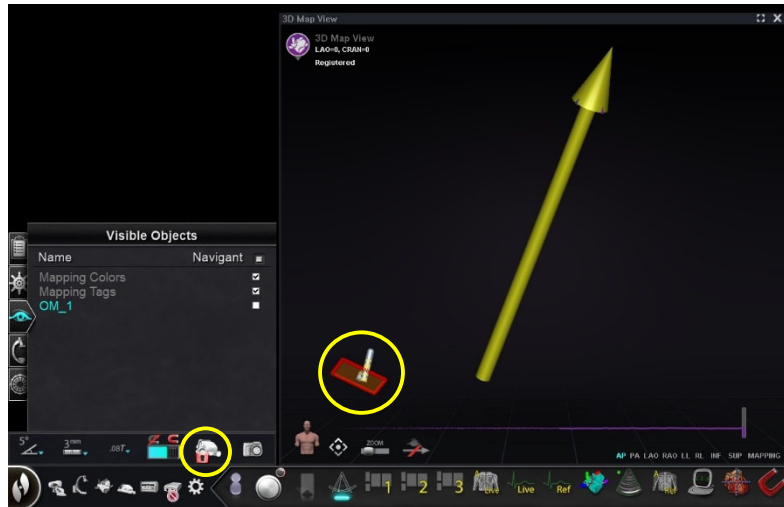

Figure 60. Retraction limit indicators
The final crossing plane location represents the limit to which the catheter can be retracted and still remain in the left atrium (see limit indicators in **Figure 60**). The Access Protection icon on the Navigation toolbar changes to a Locked status when the checkbox has been selected and the crossing plane location has been defined. Clicking on the Access Protection icon will toggle its state from Locked (ON) to Unlocked (OFF) and vice versa. The Access Protection status is represented by changes in the Access Protection icon (**Figure 58**). The icon is located on the *Navigant* toolbar (**Figure 59**).
When the catheter retraction limit is reached during post-registration catheter usage, the crossing plane and the Access Protection limit icon (emphasized in **Figure 60**) both flash red.